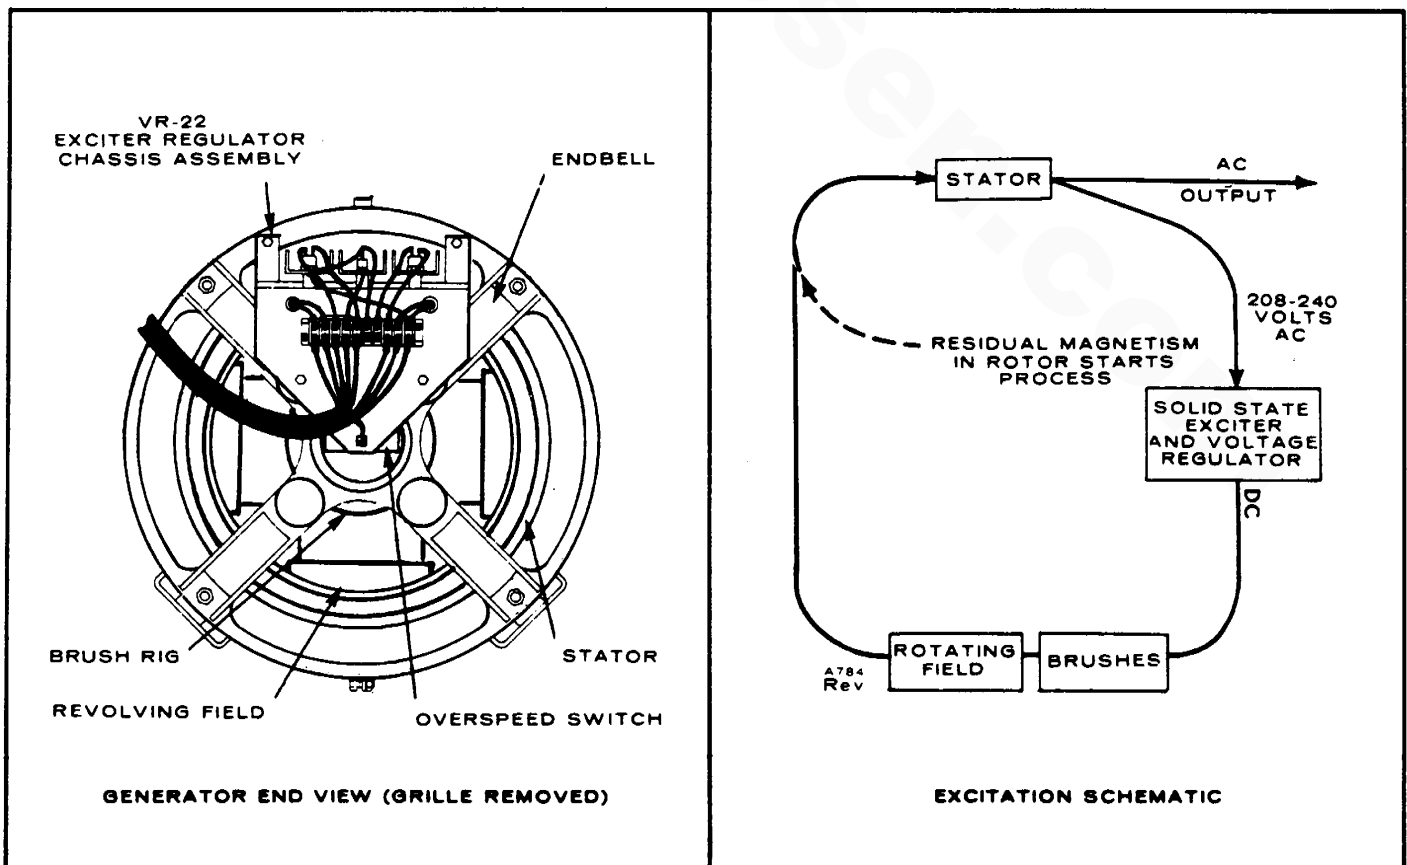

FIGURE 1. STATIC EXCITER DESIGN
2. On static-excited generators, brushes attach to the brush rig inside of end bell housing; inspect through large access holes in the end bell. See Figure 1.